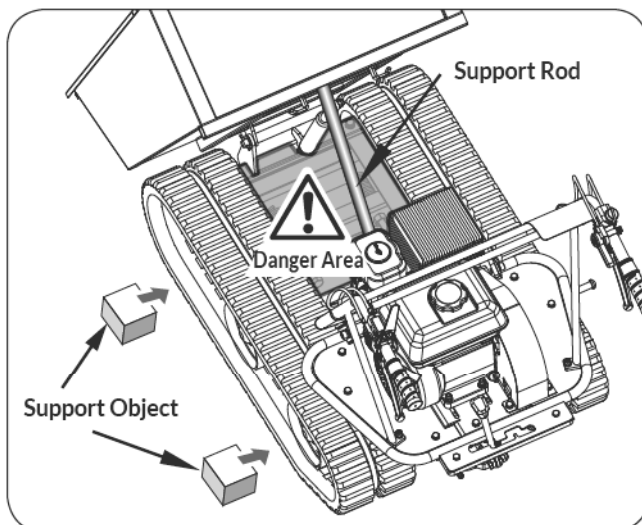

Figure 9a
2. Lift the machine and set it on blocks or supports rated for the weight of the machine so that the tracks are approximately 4" off the ground. (See Figure 9a)